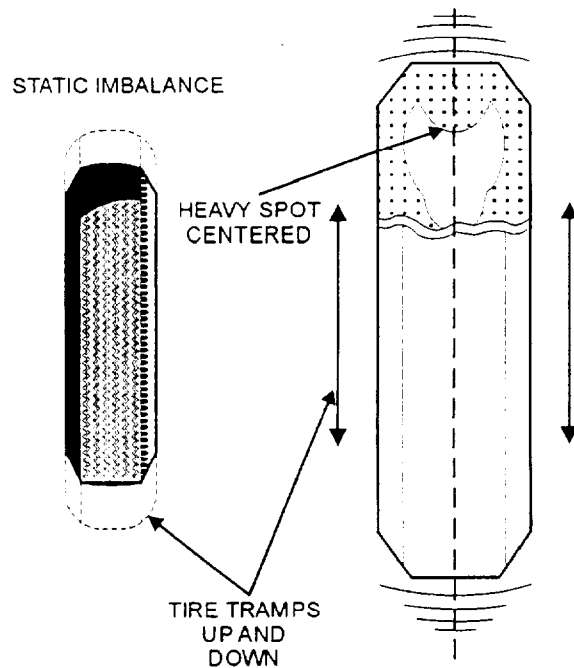

Figure 8-43.—Static imbalance.
- **STATIC IMBALANCE** (fig. 8-43), also called wheel tramp or hop, lies in the plane of wheel rotation, which causes the tire to vibrate up and down. For a wheel and tire assembly to be in static balance, the weight must be evenly distributed around the axis of rotation.